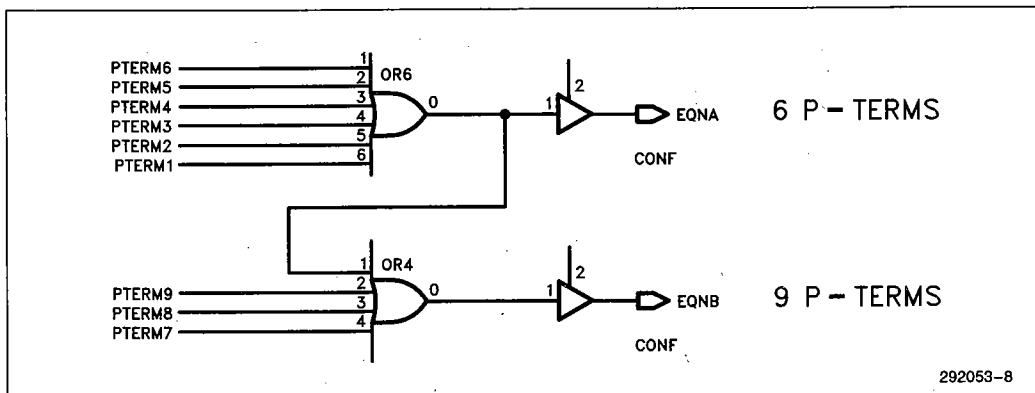

Figure 5a. Summit Seven—Too Many P-Term Equation Before
**WORKAROUND:** The workaround for this situation may already be in place! If any portion of the logic (or equation) is routed into a NOCF or CONF elsewhere in the design, that feedback can be taken and routed into the equation (see Figure 5a-b). This means a single feedback node—rather than several nodes will now feed the equation and thereby reduce the p-term count. (If the feedback is to be taken from a CONF primitive, the CONF must be changed to a COCF or COIF to make the feedback available.)